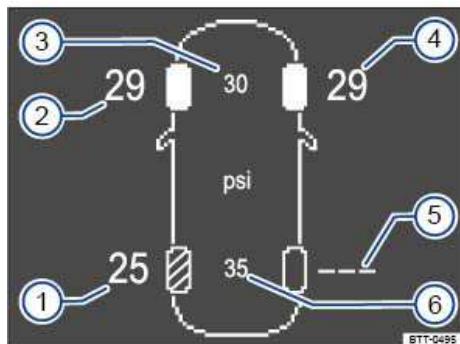

Fig. 112 Display screen in the instrument cluster: Current tire pressures in psi.
The display in the instrument cluster shows the vehicle with the actual and benchmark tire pressures of all 4 road wheels ⇒ fig. 112
(1)	Tire pressure warning, left rear tire. ⇒ fig. 112
(2)	Current tire pressure, front left tire.
(3)	Benchmark pressure, front tires ⇒ fig. 112
(4)	Current tire pressure, front right tire.
(5)	No data received, right rear tire.
(6)	Benchmark pressure, rear tires